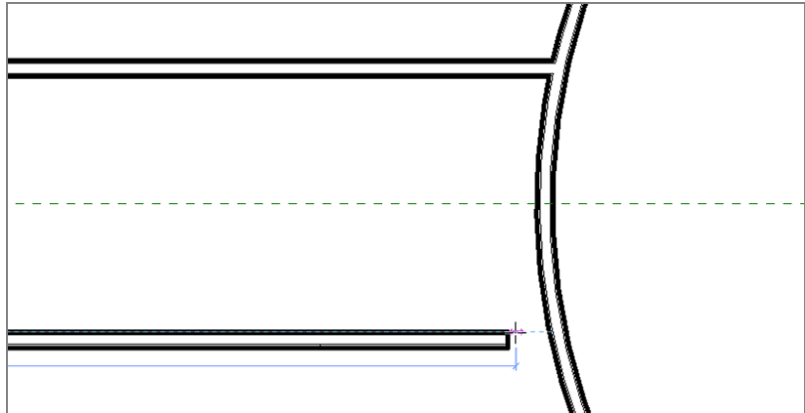

FIGURE 2.36: Getting a grip on the grips
3. Repeat the step for the bottom wall (see Figure 2.36).